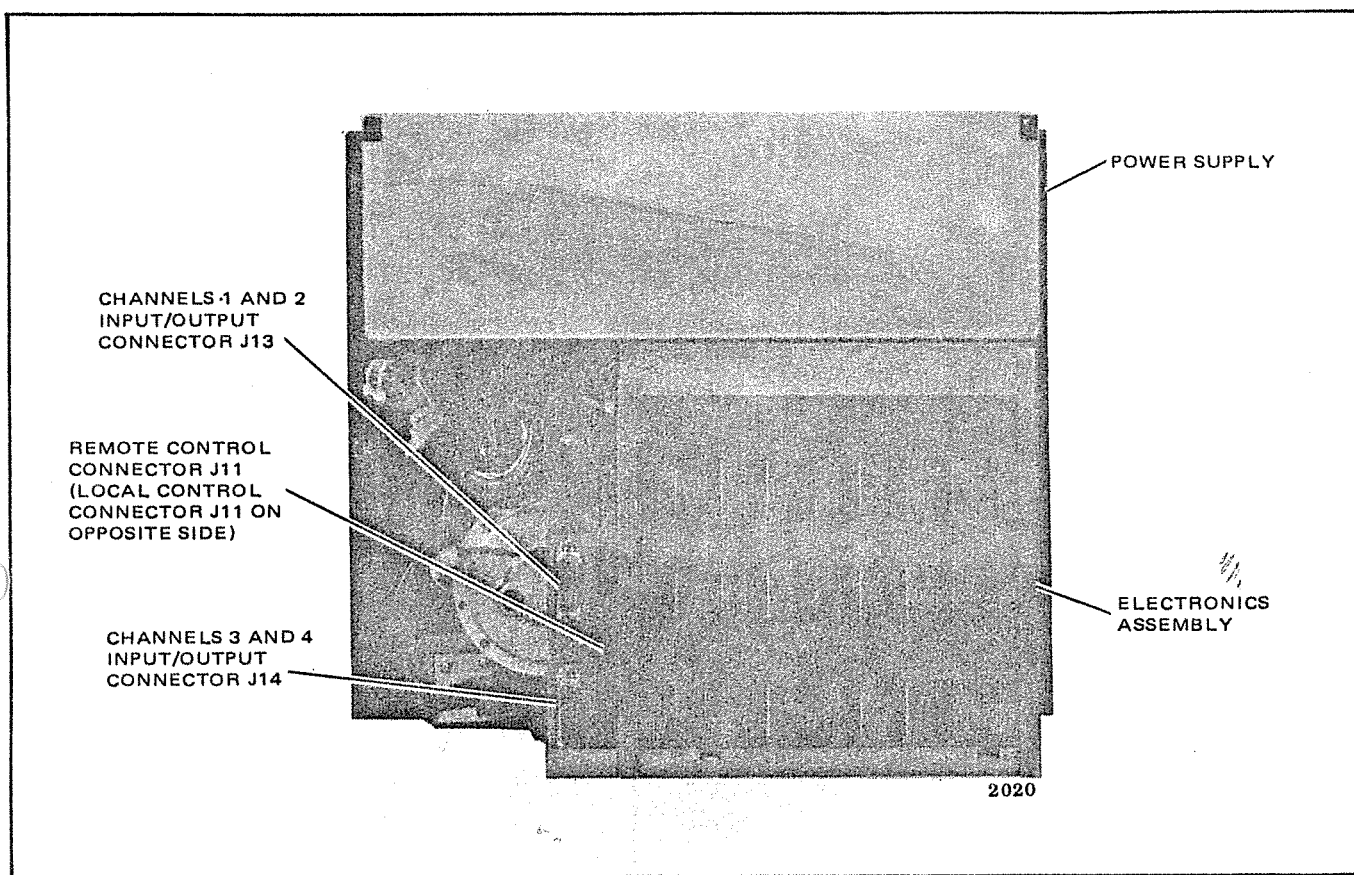

Figure 3. Connector Locations, Bottom View of Recorder/Reproducer
- b. On all models disconnect cable from input/output assembly to transport at J13 or J14 on electronics assembly (see Figure 3).